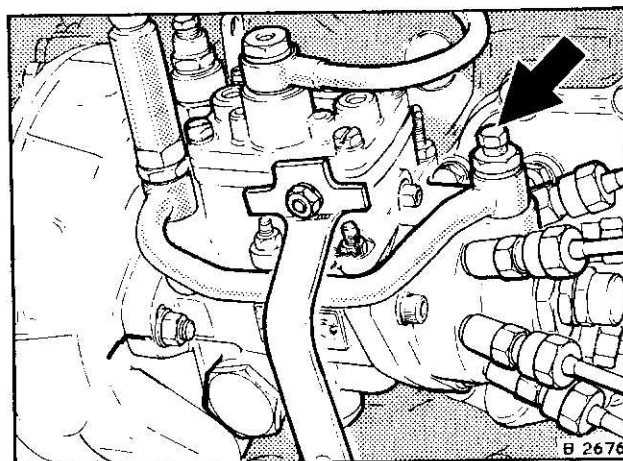

Fig. 9
2. Slacken the fuel injection pump vent plug, Fig. 9, and operate the priming lever cable until fuel, free from air bubbles, flows from the vent point and then tighten the vent plug.